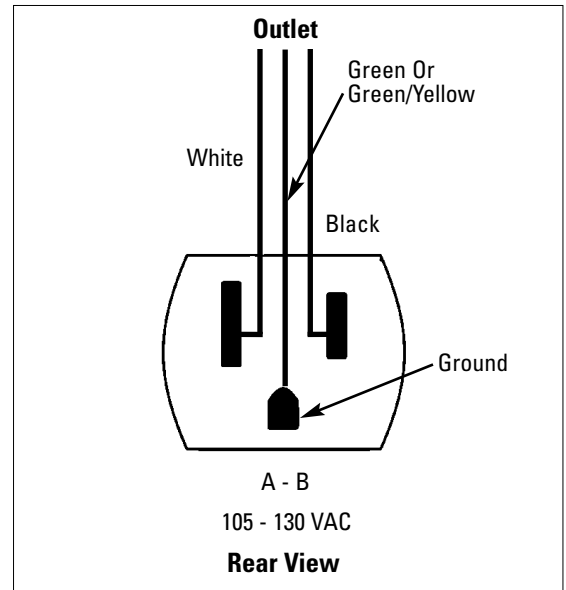

Figure 5 - Single-Phase Wiring Diagram
20. Connect the balancer to an appropriate electrical receptacle. Refer to Figure 5, as well as Electrical Requirements on page 2.